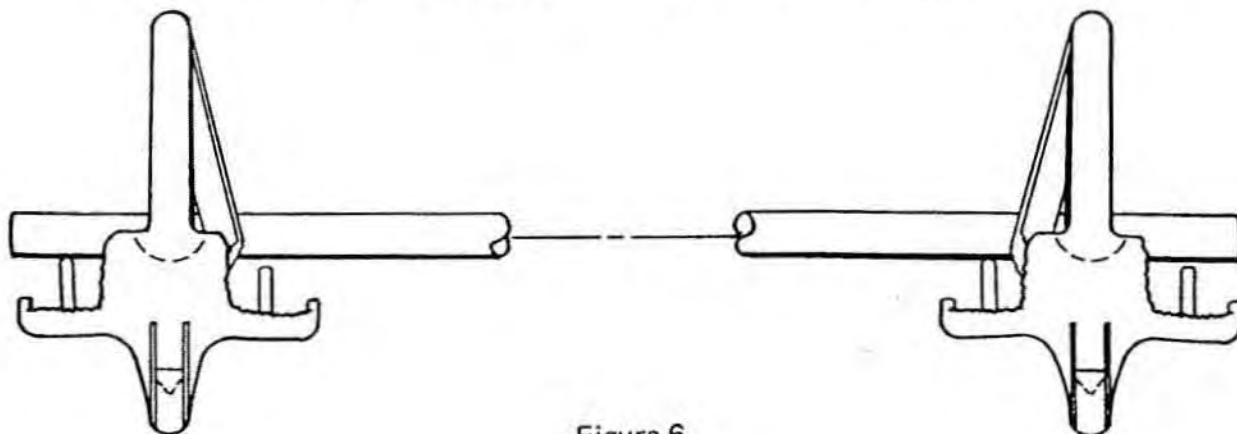

Figure 6
- b. Adjust the camber so the skis are tipped slightly to the inside of the track, Fig. 6. Only a small amount at first, as too much can get grabby.